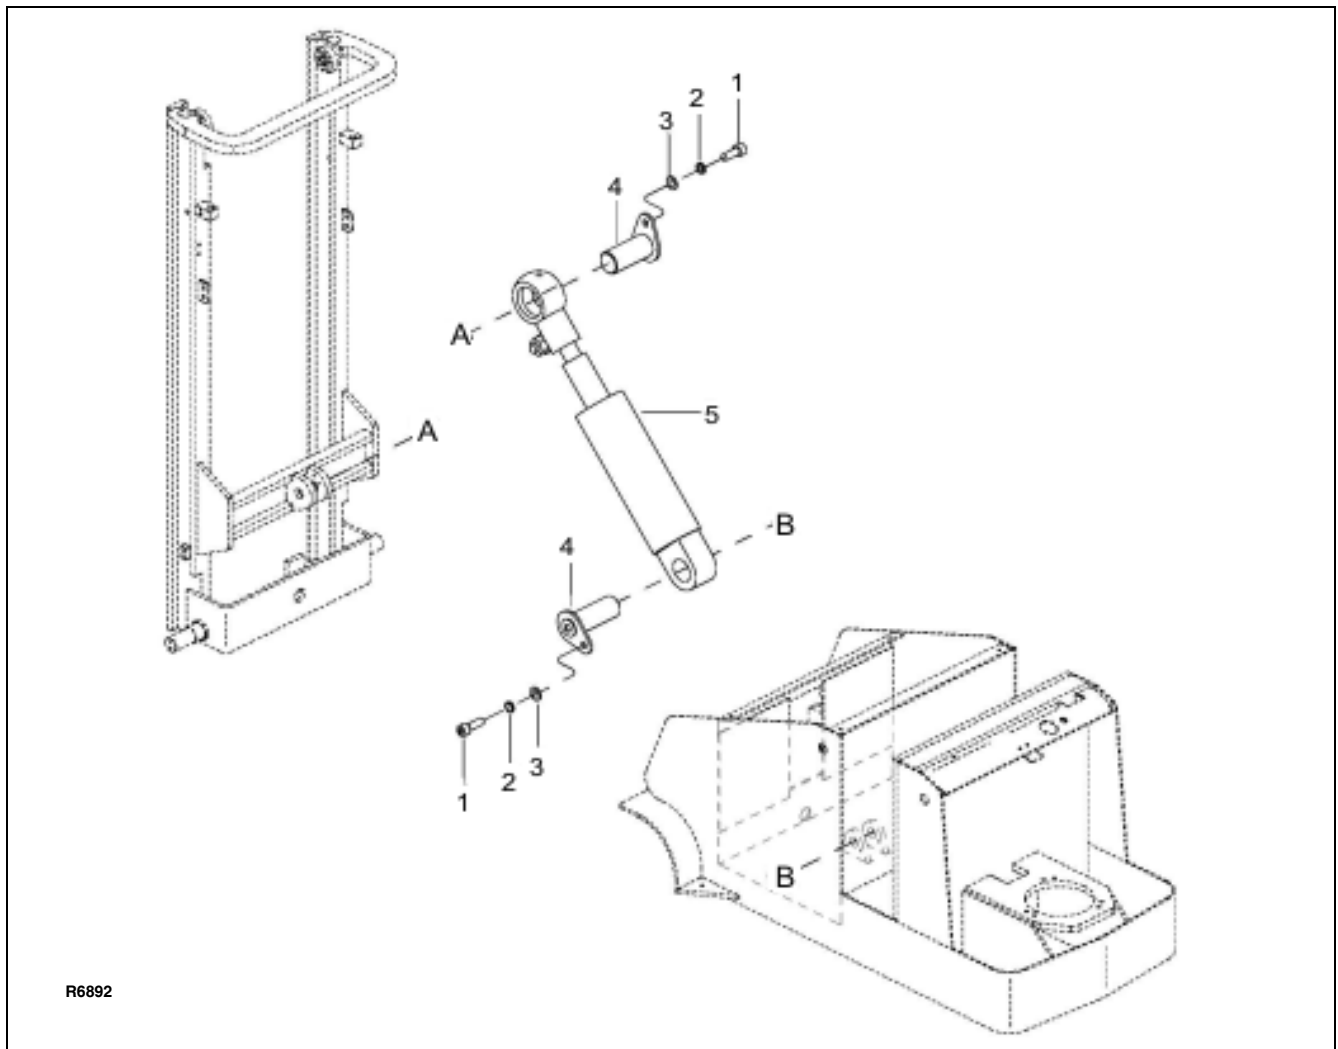

Figure 9-9 Tilt Cylinder Mounting
5. Support the tilt cylinder and remove bolts (1, Figure 9-9), lock washers (2), flat washers (2) and pins (4) and shaft (19) from the cylinder.
2. Secure the cylinder with shafts (19, Figure 9-9), bolts (1), lock washers (2), and flat washers (2).